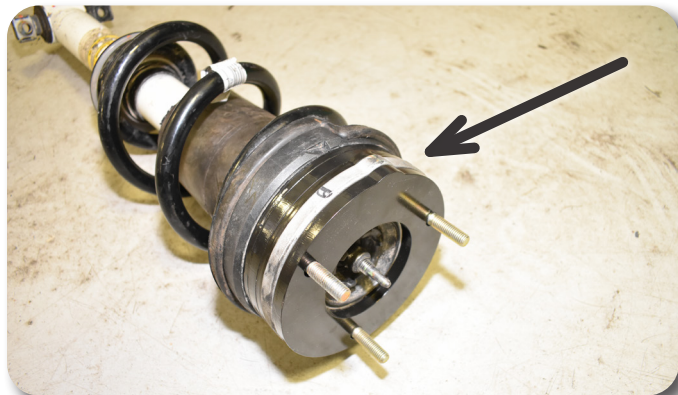

Figure 13
Verify the strut assembly looks like Figure 13 with the two preload spacers installed and the 3/8" top spacer.
17. Install the provided 3/8" top spacer on top of the upper strut mount Figure 13. The notch on the top spacer will line up with the notch on the upper strut mount.